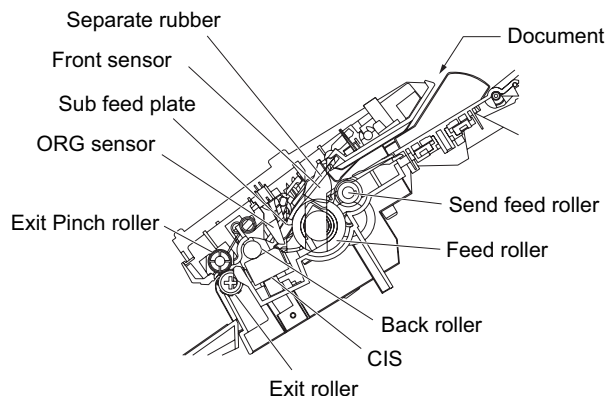

Fig. 1
- 1) As shown in Fig.1, the document set in the hopper (the front sensor is on) is fed with the let out roller and paper feed roller which rotate together with the pulse motor.